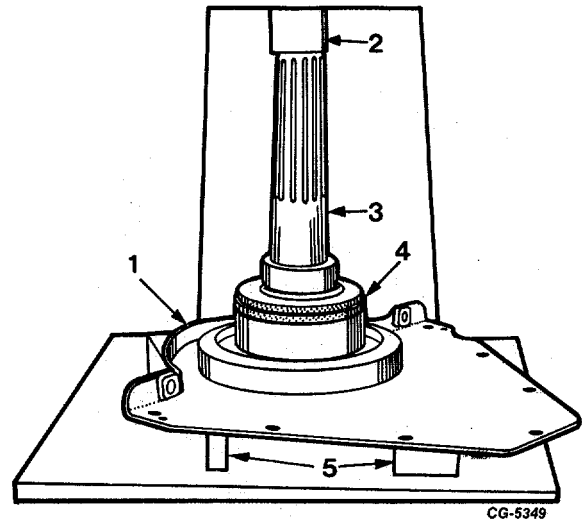

Fig. 56 Rear Oil Seal Removal
62. Press rear oil seal from retainer plate using handle from SE-1905 and 4-1/8" disc, Figure 56.